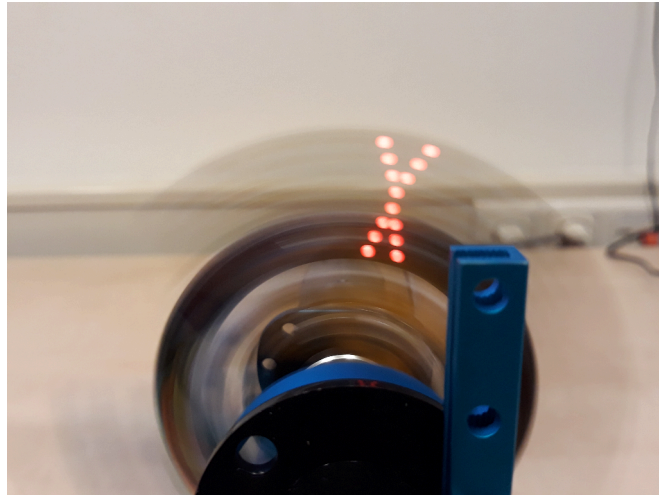
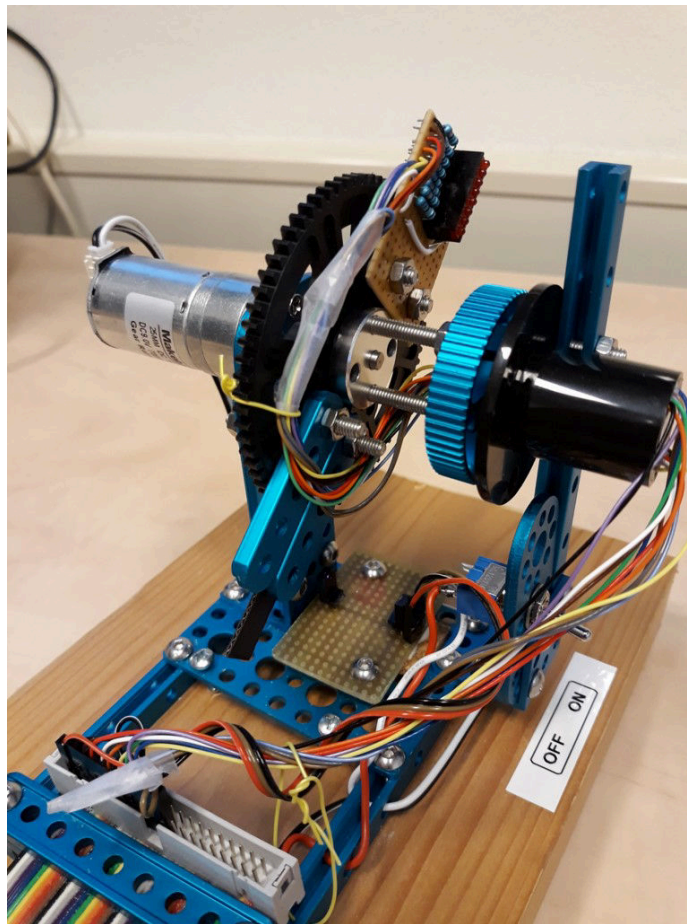

Figure 1: Rotating Leds System writing X
Figure 2: Rotating Leds System
For this real world example we created the "Rotating Leds System", shown in figures 2 and 3 , which full fills all these requirements. This document describes all the details of the hardware of the "Rotating Leds System".
The rotating leds system has a motor driving a wheel on which an array of leds is mounted. The wheel is turning that fast such that when turning the leds on and off at the right times you could write letters in the air. In figure 2 you can see the rotating leds system at rest with the 8 leds array almost at the top of the wheel. In figures 1 and 3 you see the wheel rotating and the leds controlled in such a way that the letter X is written. The challenge for the students is to write the real-time control program for the rotating leds system on the Raspberry Pi using the Xenomai API to achieve writing this letter X.
shown in the figure 2. Note that a high signal (1) means that the LED will be on; with a low signal (0) it will be off.
5. To the plastic wheel a strip is attached which when the wheel is rotating will block the infrared light in the optical switch circuit mounted at the bottom of the system. In figures 2 and 13. In figure 14 you can see how we mounted the optical switch circuit.